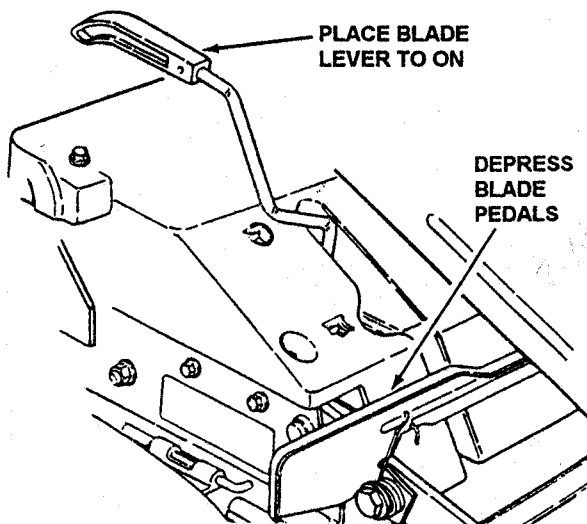

FIGURE 3.4
- The 28" and 33" models have dual idlers to automatically control belt tension. Belt tension is self-adjusting on these models. On 25" models, check tension with engine "OFF", by moving the blade lever up to the "ON" position and depressing blade pedals. See Figure 3.4